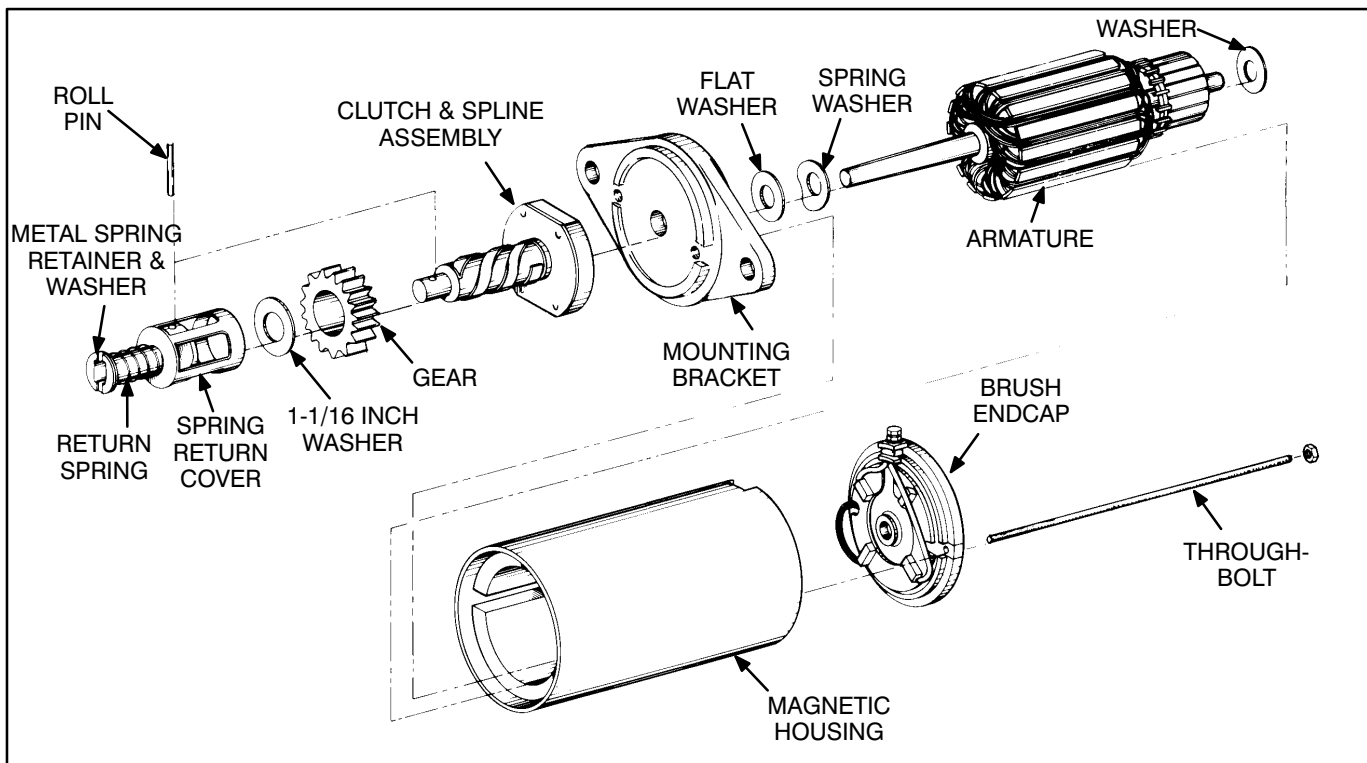

FIGURE 8-18. STARTER ASSEMBLY
8. Place a spring washer and a flat washer on the shaft, as shown in Figure 8-18.